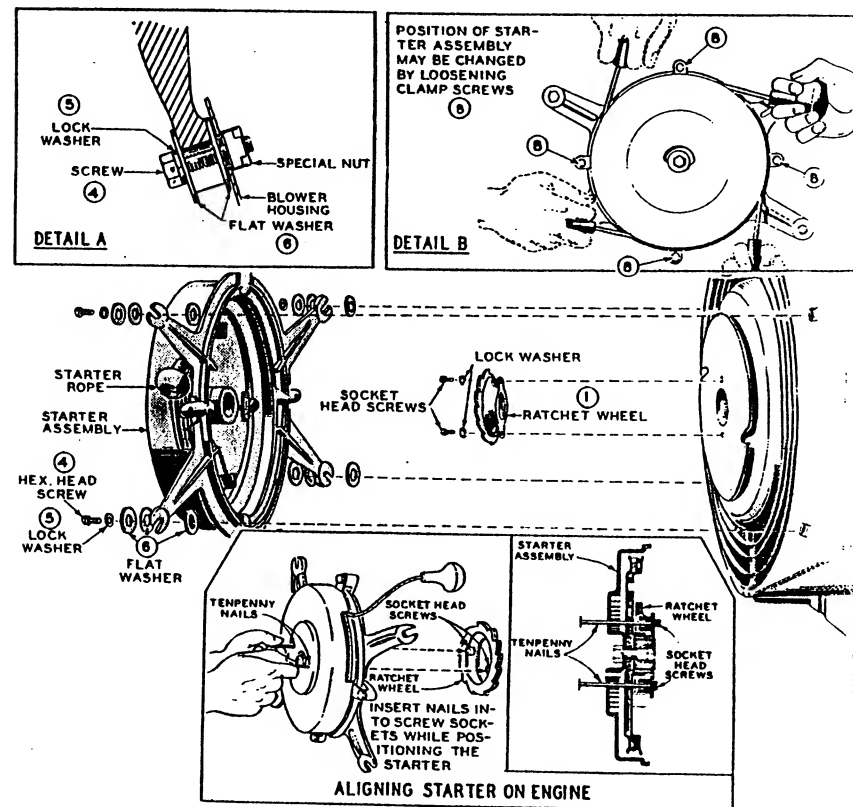

FIG. 13 - MODEL "D" READI-PULL STARTER
**READI-PULL STARTER.** - Some models of the generating set are equipped with self-rewinding, ratchet type rope starters. Figure 13 illustrates methods of mounting and positioning the starter.